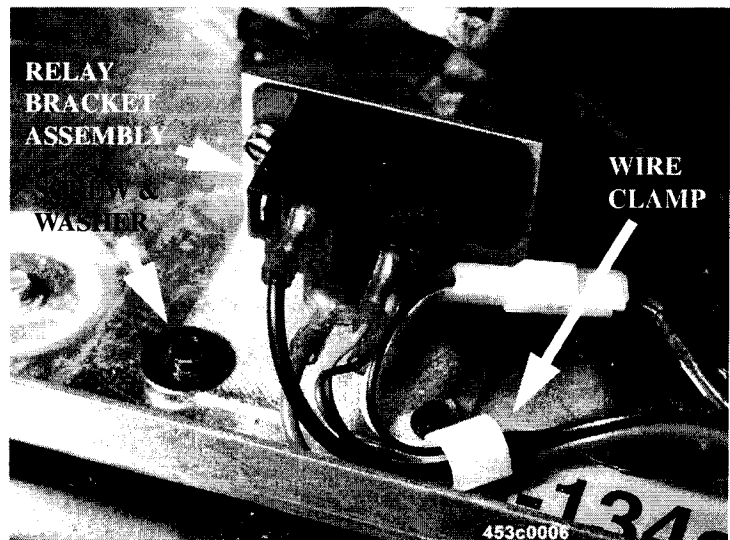

Figure 7
2. Fasten the relay bracket assembly (4534065) to the refrigeration chassis using the same holes that the relay was removed from in step 1. Use a screw (removed in step 1) and washer (4402041) on the left side and a screw (removed in step 1) and wire clamp (1452139) on the right side of the relay bracket. The wire clamp should be positioned so that the clamp is facing the right (see figure 7).
3. Place the five relay wires into the wire clamp. *Ensure that the wires have some slack so that they are not taut* (see figure 7).